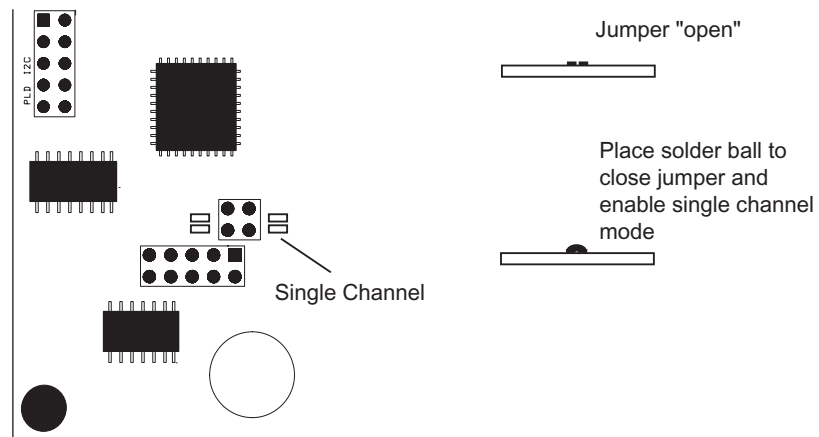

FIGURE 12. AX500 Solder Jumper setting for Single Channel Operation
- Place a drop of solder on the PCB jumper pad shown in Figure 12 .